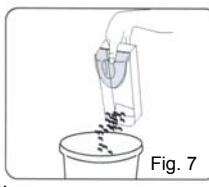

Fig. 7
2. Empty dust container contents. (Fig. 7) If desired, you may rinse with water to clean the dust container – but **dry thoroughly** before replacing on the sweeper.